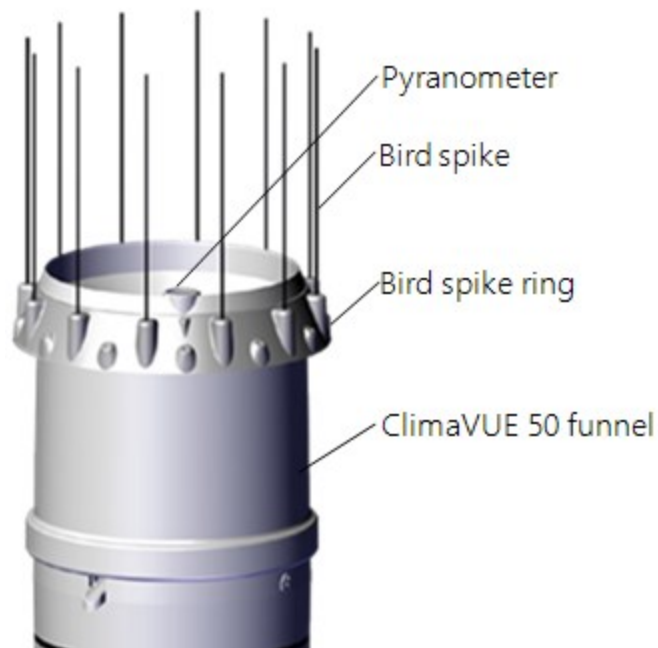

Figure 7-7. Bird-spike kit mounted properly
- Position the ring on top of the ClimaVUE 50 with the pyranometer aligned with the triangle between two spikes (Figure 7-7 [p. 19]); this will limit spike shadows on the sensor.
7. Press finished bird deterrent onto the ClimaVUE 50 funnel to at least the depth shown in Figure 7-7 (p. 19).